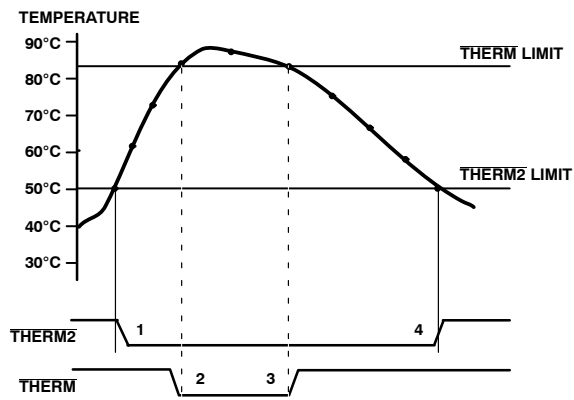

Figure 21. Operation of the $\overline{\text{THERM}}$ and $\overline{\text{THERM2}}$ Interrupts
Figure 21 shows how $\overline{\text{THERM}}$ and $\overline{\text{THERM2}}$ might operate together to implement two methods of cooling the system. In this example, the $\overline{\text{THERM2}}$ limits are set lower than the $\overline{\text{THERM}}$ limits. The $\overline{\text{THERM2}}$ output could be used to turn on a fan. If the temperature continues to rise and exceeds the $\overline{\text{THERM}}$ limits, the $\overline{\text{THERM}}$ output could provide additional cooling by throttling the CPU.
3. The $\overline{\text{THERM}}$ output de-asserts (goes high) when the temperature falls to $\overline{\text{THERM}}$ limit minus hysteresis. In Figure 21, there is no hysteresis value shown.